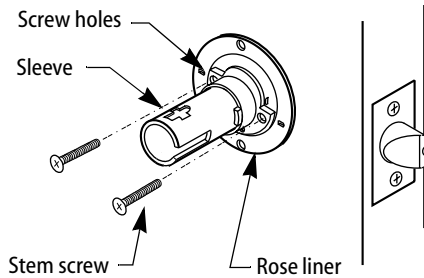

Figure 8—Mounting the inside rose liner
- 1 Install the inside rose liner by placing it on the spindle and aligning the two screw holes closest to the sleeve with the two through-bolt stems. See Figure 8.